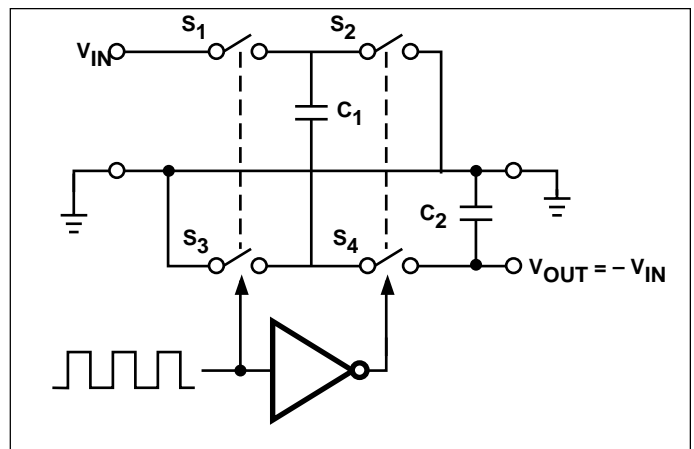
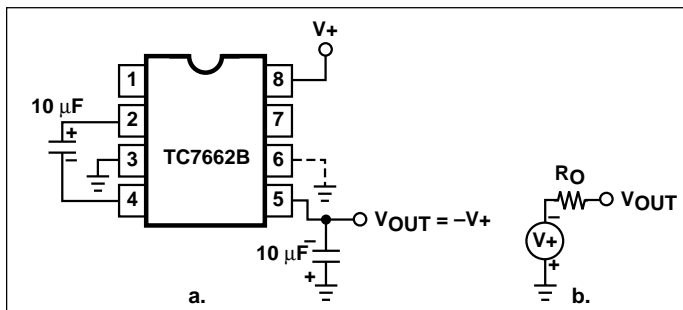
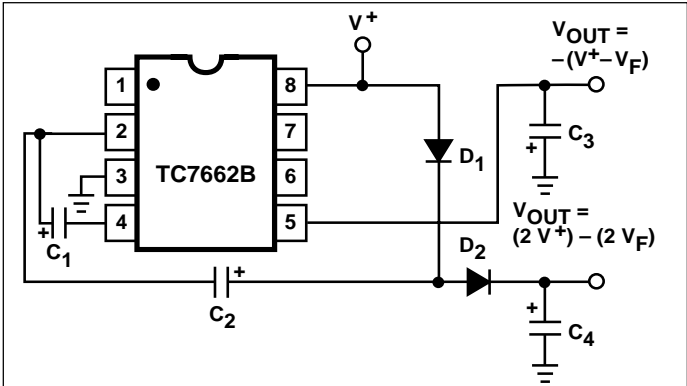

Figure 2. Idealized Negative Voltage Capacitor
Figure 3. Simple Negative Converter and its Output Equivalent
Figure 10. Combined Negative Converter and Positive Doubler
ELECTRICAL CHARACTERISTICS: $V^+ = 5V$, $T_A = +25^\circ C$, OSC = Free running, Test Circuit Figure 2, Unless Otherwise Specified.
The TC7662B contains all the necessary circuitry to complete a negative voltage converter, with the exception of two external capacitors which may be inexpensive 1 μ F polarized electrolytic types. The mode of operation of the device may be best understood by considering Figure 2, which shows an idealized negative voltage converter. Capacitor C₁ is charged to a voltage V⁺ for the half cycle when switches S₁ and S₃ are closed. (Note: Switches S₂ and S₄ are open during this half cycle.) During the second half cycle of operation, switches S₂ and S₄ are closed, with S₁ and S₃ open, thereby shifting capacitor C₁ negatively by V⁺ volts. Charge is then transferred from C₁ to C₂ such that the voltage on C₂ is exactly V⁺, assuming ideal switches and no load on C₂. The TC7662B approaches this ideal situation more closely than existing non-mechanical circuits.
In the TC7662B, the four switches of Figure 2 are MOS power switches; S₁ is a P-channel device and S₂, S₃ and S₄ are N-channel devices. The main difficulty with this approach is that in integrating the switches, the substrates of S₃ and S₄ must always remain reverse biased with respect to their sources, but not so much as to degrade their "ON" resistances. In addition, at circuit start up, and under output short circuit conditions (V_{OUT} = V⁺), the output voltage must be sensed and the substrate bias adjusted accordingly. Failure to accomplish this would result in high power losses and probable device latchup.
where V₁ and V₂ are the voltages on C₁ during the pump and transfer cycles. If the impedances of C₁ and C₂ are relatively high at the pump frequency (refer to Figure 2) compared to the value of R_L, there will be a substantial difference in voltages V₁ and V₂. Therefore, it is desirable not only to make C₂ as large as possible to eliminate output voltage ripple, but also to employ a correspondingly large value for C₁ in order to achieve maximum efficiency of operation.
The majority of applications will undoubtedly utilize the TC7662B for generation of negative supply voltages. Figure 3 shows typical connections to provide a negative supply where a positive supply of +1.5V to +15V is available. Keep in mind that pin 6 (LV) is tied to the supply negative (GND) for supply voltages below 3.5 volts.
The output characteristics of the circuit in Figure 3 can be approximated by an ideal voltage source in series with a resistance as shown in Figure 3b. The voltage source has a value of $-(V+)$. The output impedance (R_O) is a function of the ON resistance of the internal MOS switches (shown in Figure 2), the switching frequency, the value of C_1 and C_2 , and the ESR (equivalent series resistance) of C_1 and C_2 . A good first order approximation for R_O is:
Figure 10 combines the functions shown in Figures 3 and 9 to provide negative voltage conversion and positive voltage doubling simultaneously. This approach would be, for example, suitable for generating +9V and -5V from an existing +5V supply. In this instance, capacitors C_1 and C_3 perform the pump and reservoir functions, respectively, for the generation of the negative voltage, while capacitors C_2 and C_4 are pump and reservoir, respectively, for the doubled positive voltage. There is a penalty in this configuration which combines both functions, however, in that the source impedances of the generated supplies will be somewhat higher due to the finite impedance of the common charge pump driver at pin 2 of the device.